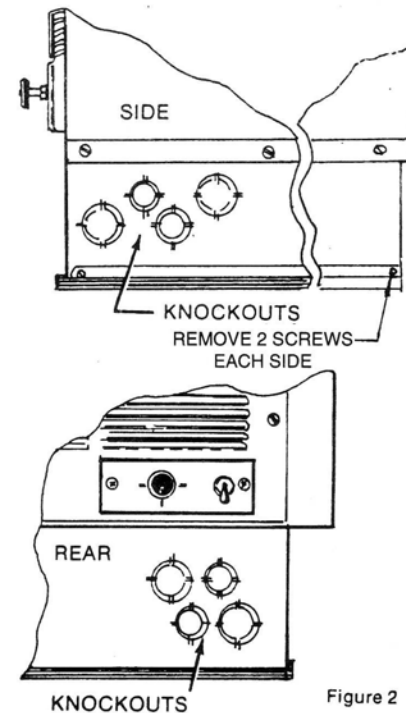

Figure 2
- c. Remove screws securing access door and swing door down to expose wiring and control compartment. (Figure 2)
- d. Knockouts are provided at the back of and one side of the heater for power and control wiring. (Figure 2) Combination 1½" and 1½" and 1½" and ¾".